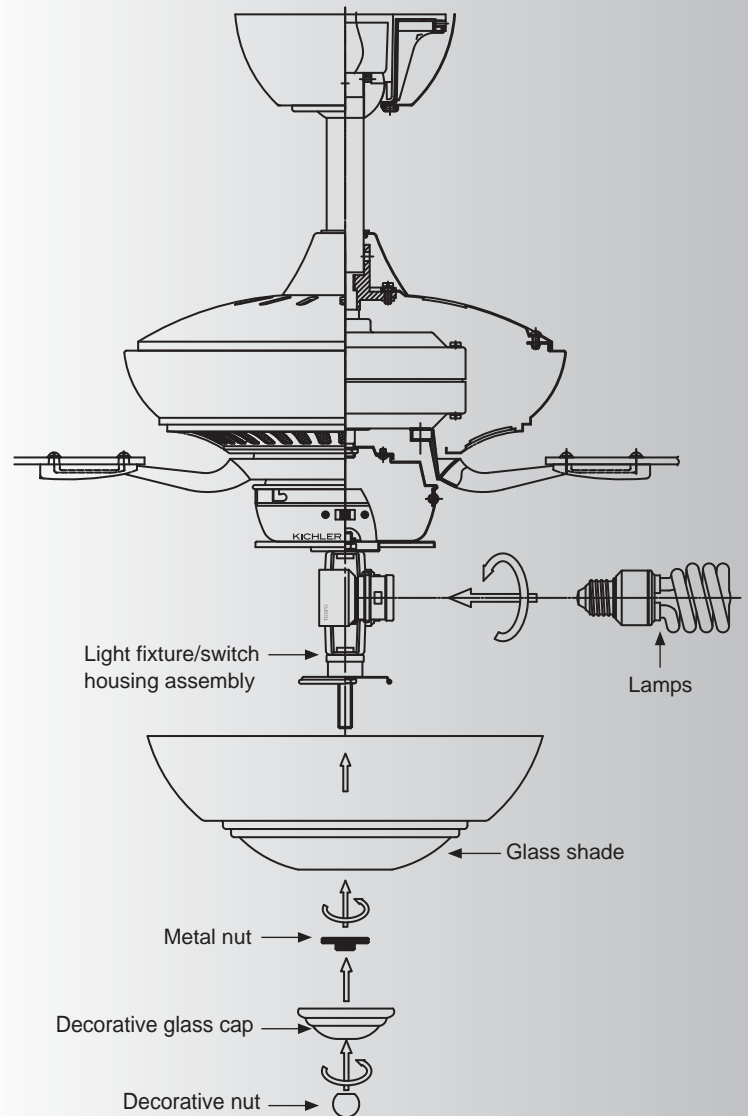

Fig. 20
Step 1. Install 2, 13 Watt, E27 compact fluorescent lamps (included). (Fig. 20)
Step 2. Remove the decorative nut, glass cap and metal nut from the light fixture stem. Place the glass shade over the light fixture stem and secure the shade with a metal nut (rubber side touching the shade). (Fig. 20)